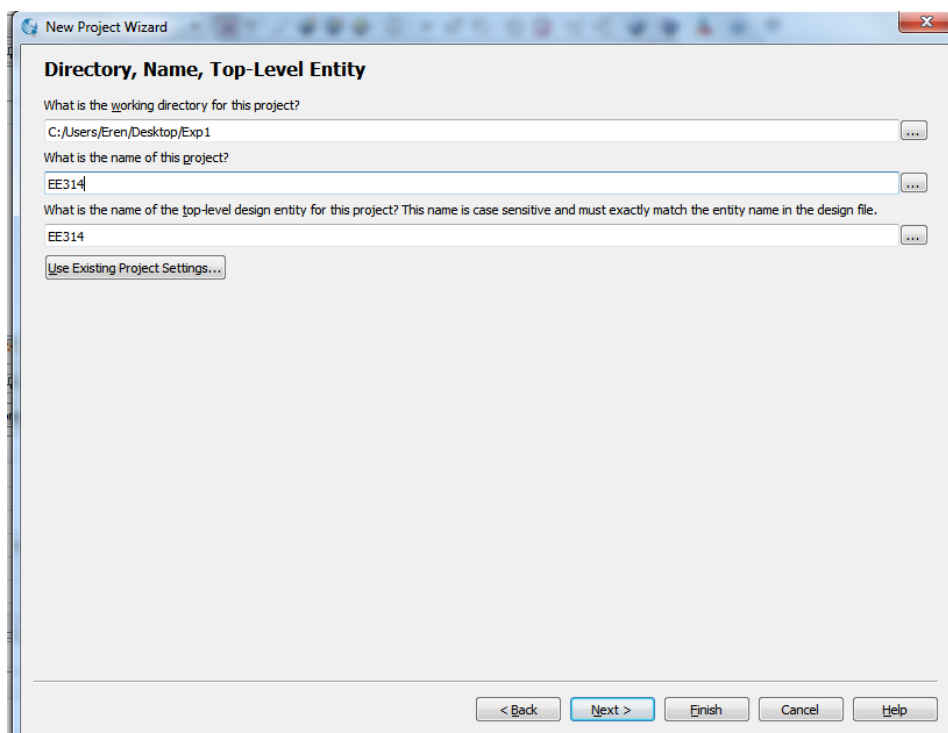

Fig. 2: Assigning working directory and project name
- 3) After opening Quartus II 14.1, you will start a new project. **Select File>New Project Wizard** and click **Next** in the opening window. In the new window set the working directory as Exp1 and write the project name as EE314 as seen from the Figure 2 then click **Next**.